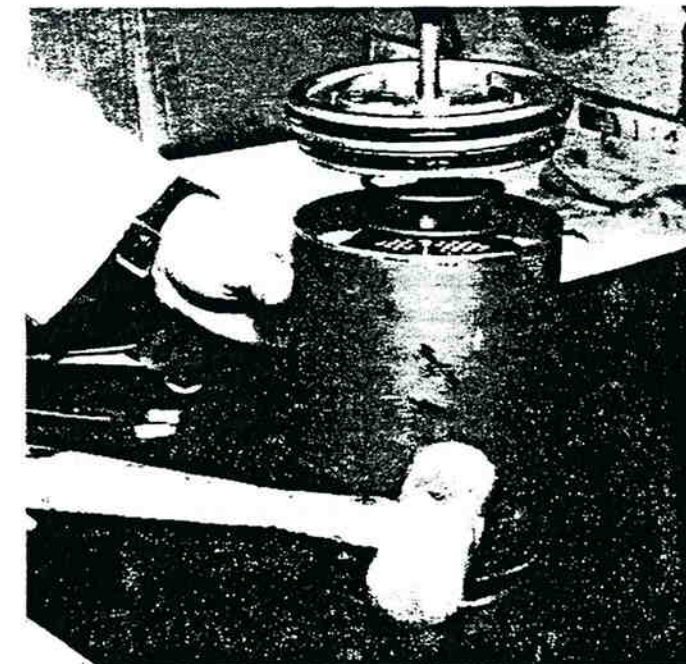

Figure 4-54. Tapping To Settle Desiccant.
11. Using the lock nut, draw the assembly together to approximately half of the spring's free height. While slowly turning the cartridge, tap the side of the shell with a plastic mallet (figure 4-54). This allows the desiccant material to settle evenly into place. Continue to tighten the nut, making sure all parts are properly aligned. Tighten nut firmly using an 11/16" nut or box wrench.